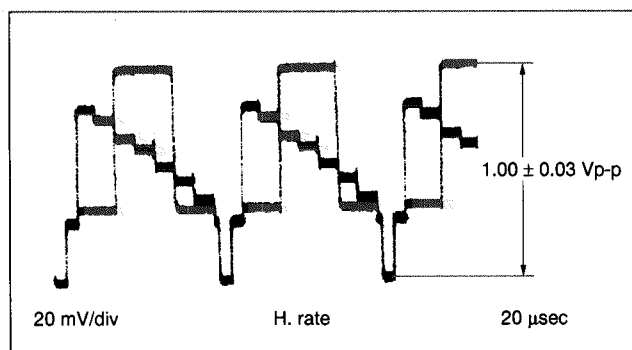

Fig. 3-3-3 EE Y level
- (1) Connect an oscilloscope to Y OUT TERMINAL.
- (2) Set the EVR mode by pressing the “K” button of the pre-setting unit.
- (3) Set “A : 11” by twice pressing 1 button of the remote controller.
- (4) Adjust the CH "+" or "-" buttons for 1.00 ± 0.03 Vp-p. (See Fig. 3-3-3.)
- (5) Set the normal VCR mode by pressing the "K" button of the presetting unit again so adjustment data is memorized.